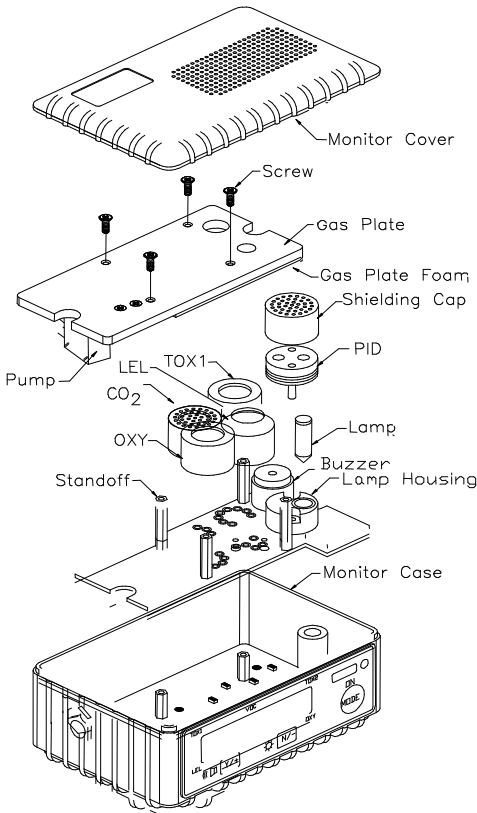

Figure 7-2 Sensor Assembly of MultiRAE IR
3. Referring to Figure 7-2, carefully unscrew four No. 2 screws that hold down the gas piping plate to the analog PCB and sensors. Remove the gas piping plate.
The sensor module is made of several components and is attached to the lamp housing unit as shown in Figure 7-2.
9. Referring to Figure 7-2, install the gas piping plate and tighten the four screws to hold down the sensors. Reconnect the battery pack. Install the monitor cover.
2. Referring to Figure 7-2, open the monitor cover, **disconnect the battery pack**, carefully unscrew four No. 2 screws that hold down the gas piping plate to the analog PCB and sensors. Remove the gas piping plate.
5. Referring to Figure 7-2, replace the gas piping plate and tighten the four screws to hold down the sensors. Reconnect the battery pack. Replace the monitor cover.